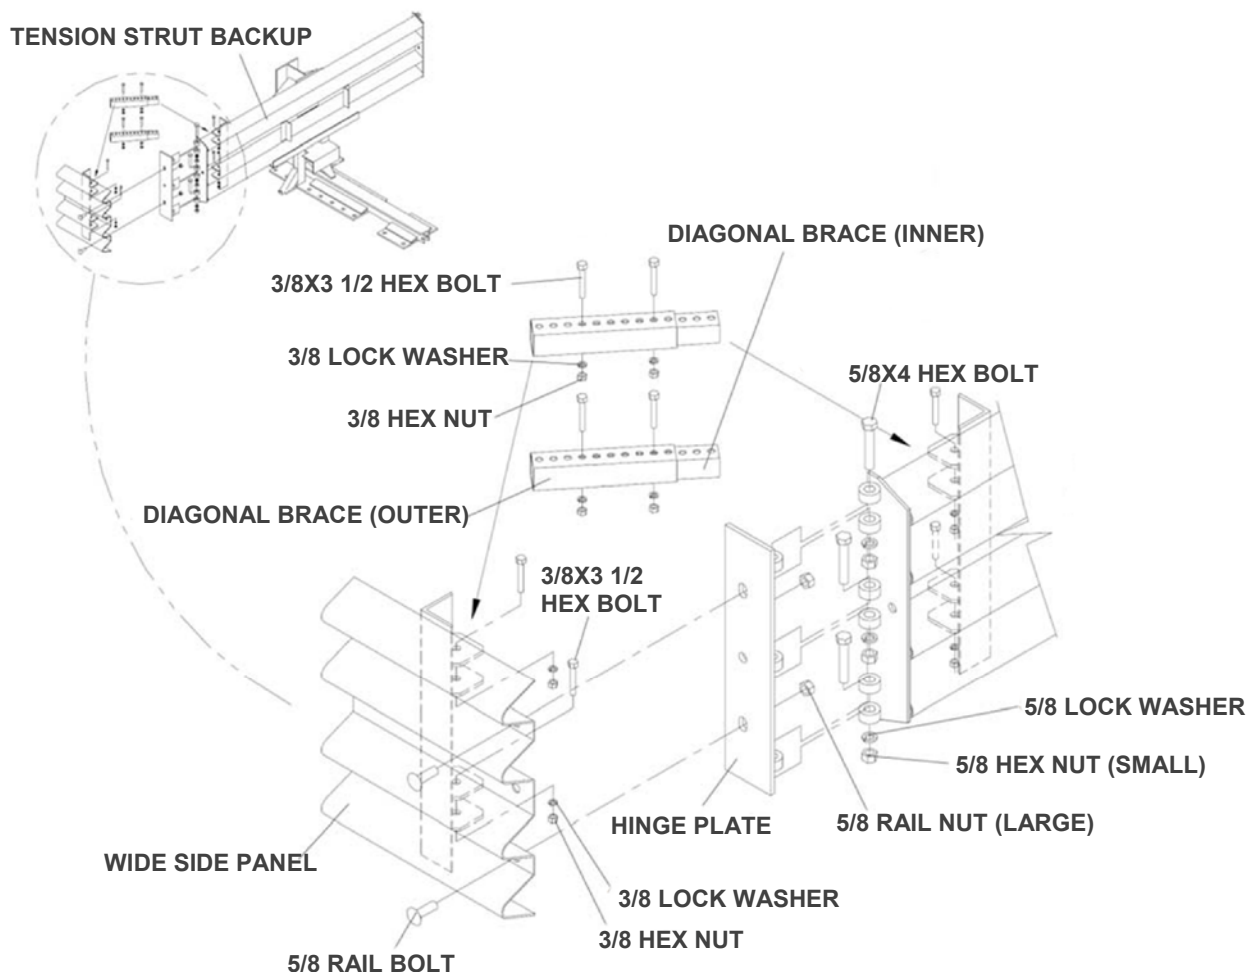

Figure 19
- Secure each diagonal brace set in two 2 places with a 3/8" hex bolt, lock washer, and hex nut Figure 19.